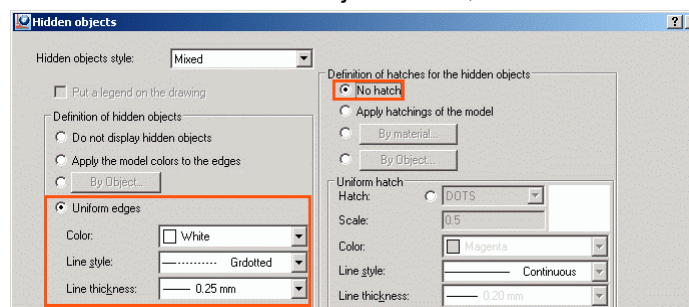

Figure 232: Setting the hatch of hidden objects
- In the "Definition of hidden objects" area, select **Uniform edges** and set the parameters as shown in Figure 232.